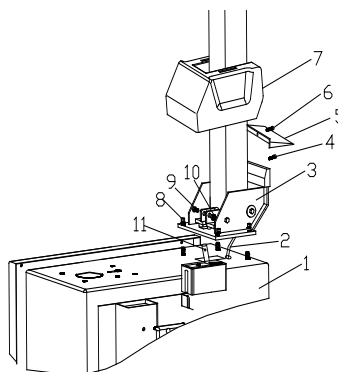

Fig 3
- 2) Place the tilting seat (3, **Fig 3**) on the body (1, **Fig 3**) with 4 bolts (M12), push air hose (2, **Fig 3**) through the hole of the column. Tighten 4 self-locking nut(8, **Fig 3**).
- 3) Insert screw (9, **Fig 3**) into the holes of both column and tilting cylinder shaft (11, **Fig 3**), tighten it with self-locking nut (10, **Fig 3**).
- 4) Unscrew the two bolts on the left cover and remove the cover, connect air hose (2, **Fig 3**) previously mentioned to the side holes which control the tilting 5-way valve. Fix the left cover.
- 5) Fix the plastic cover (7, **Fig 3**) with two bolts (4, **Fig 3**).
- 6) Mount the plastic back cover (5, **Fig 3**) on the column with screw (6, **Fig 3**).